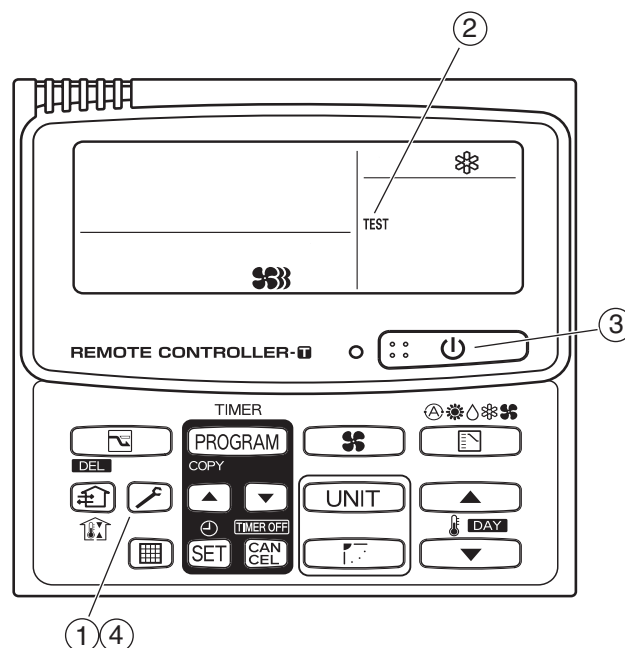

Fig. 2-7
- ① Press and hold the  button for 4 seconds or longer.
- ② "Test" appears on the remote controller LCD display (Fig. 2-7).
- ③ Start operation.
- ④ Press the  button to return to normal remote controller display.